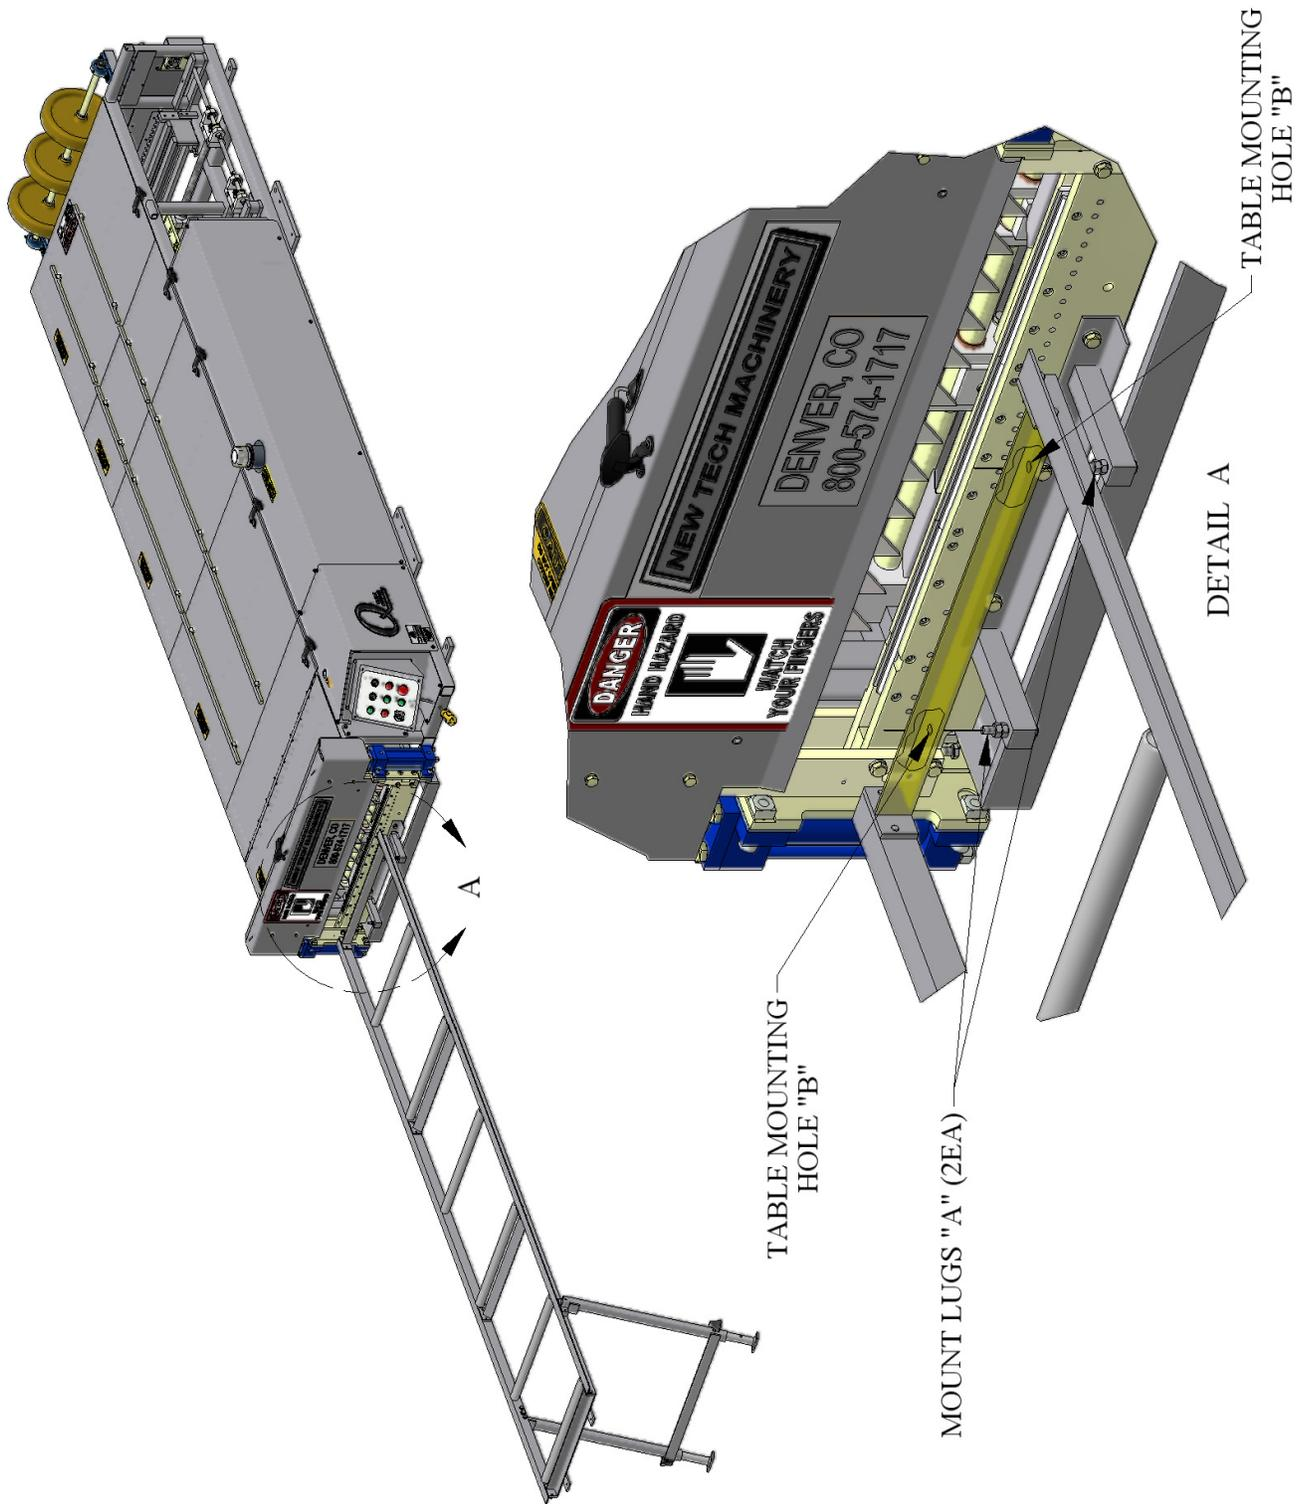
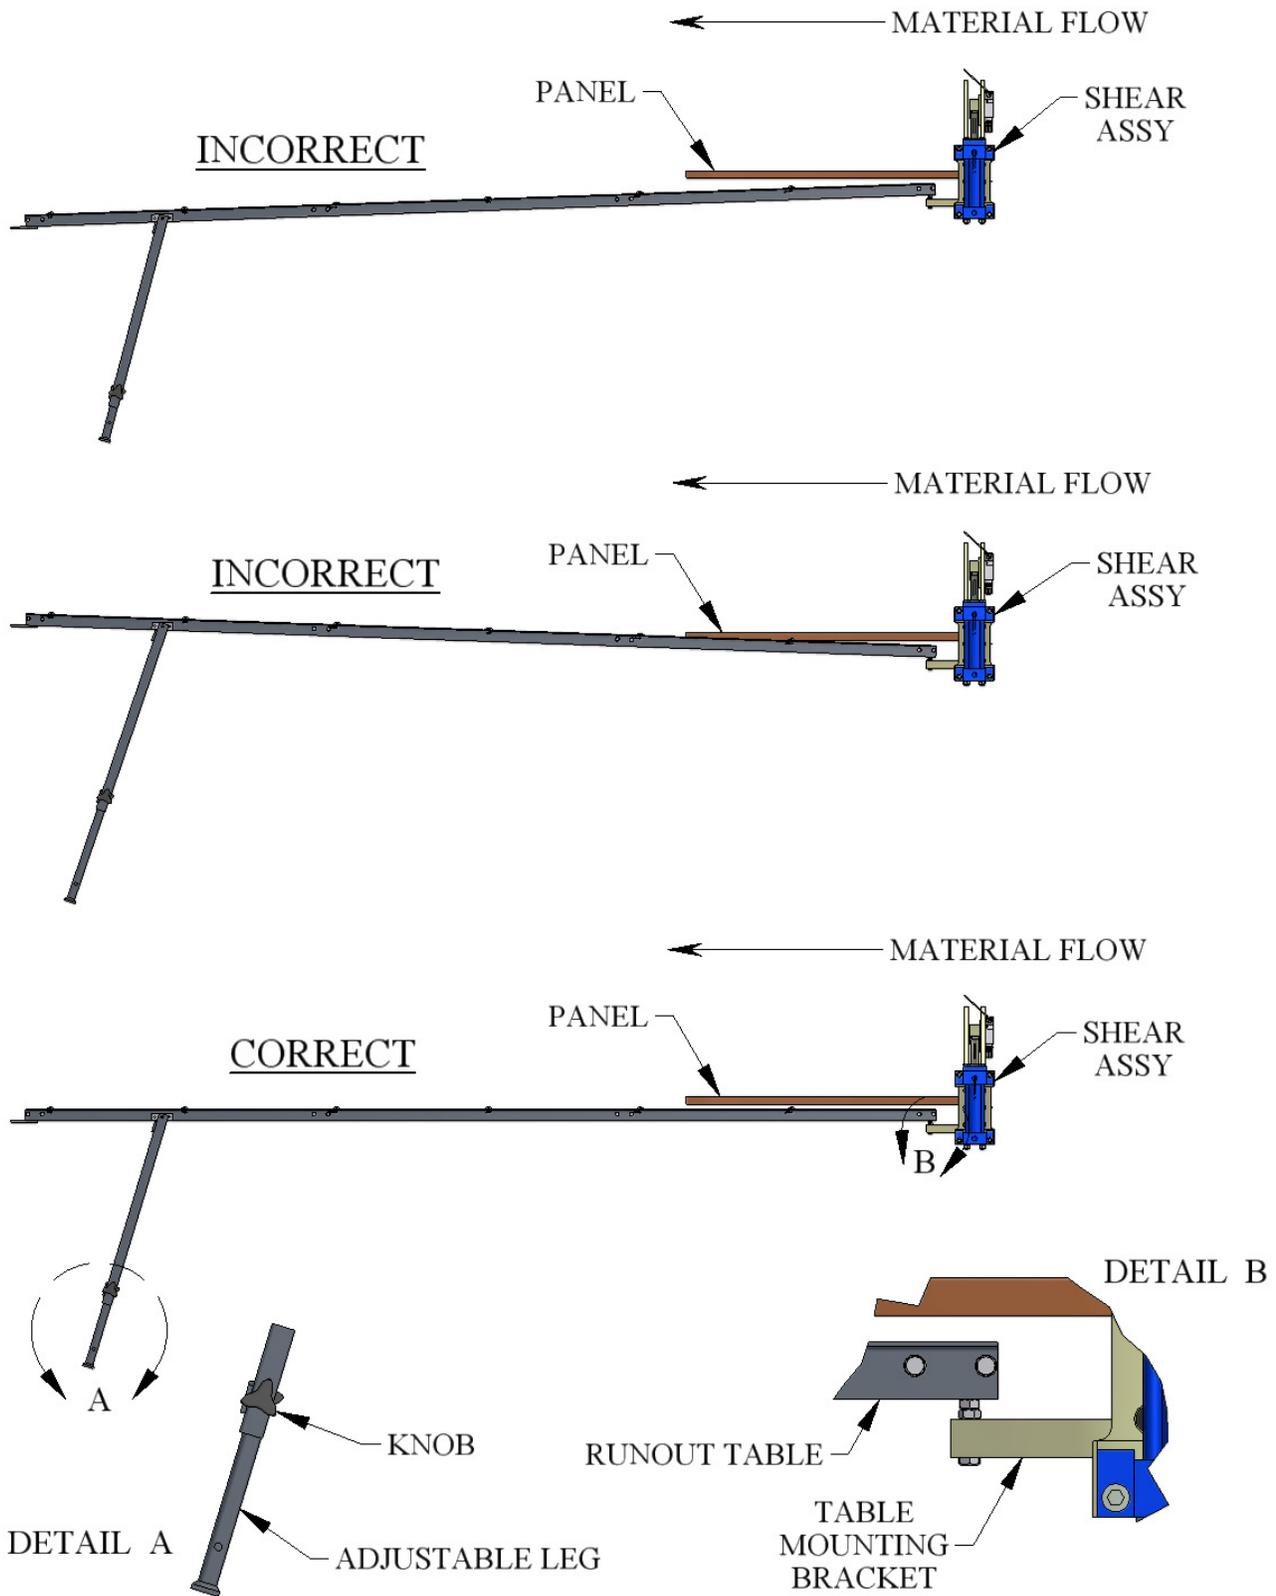

Figure 95: Run Out Table
Figure 96: Run Out Table Setup
The Run-Out Table (Figure 95 & Figure 96) attaches to the Exit End of the Shear assembly, and is used to support the panel as it exits the machine. It is available in 10 ft. long sections that fasten together, and have adjustable legs so they can be set to the correct height. The Remote Limit Switch (Figure 7 on page 14) is designed to be used with the run out tables for controlling panel length.
4. Loosen the 2 knob-handles on the leg assembly and allow the legs to fall free. Sight the height of the table on the left and right side adjusting it level to the machine using the knob-handles to lock the legs in place. See Figure 96 for correct and incorrect set up and details.